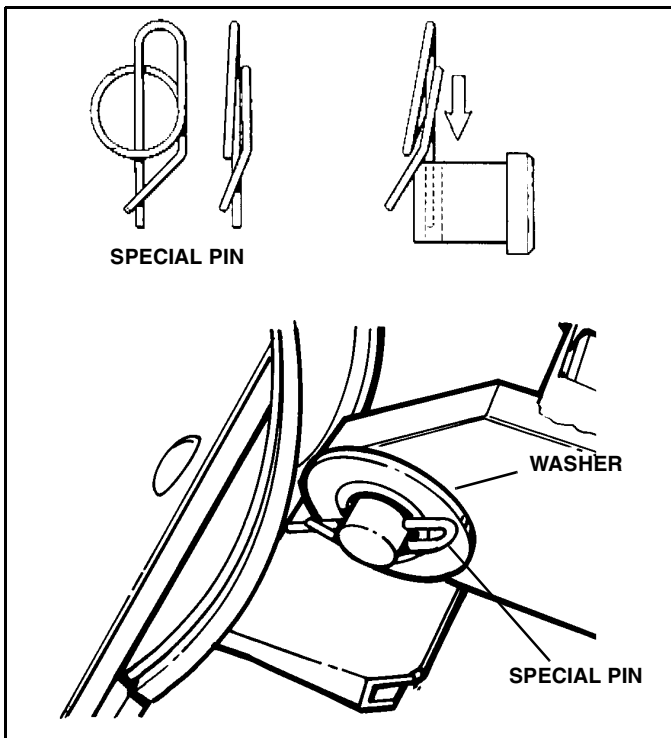

Figure 1-3
4. Secure pivot pins by installing flat washers and inserting special cotter pins in pivot pin hole until loop of special pin is engaged over end of pivot pin. (See Figure 1-3)